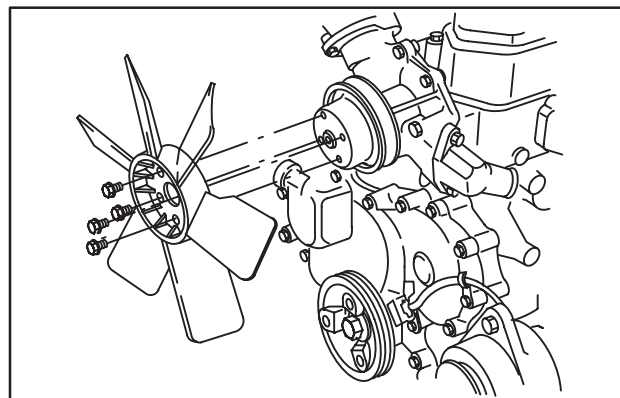

Fig. 37 – Install Water Pump Pulley And Fan
10. Install water pump pulley, Fig. 37.